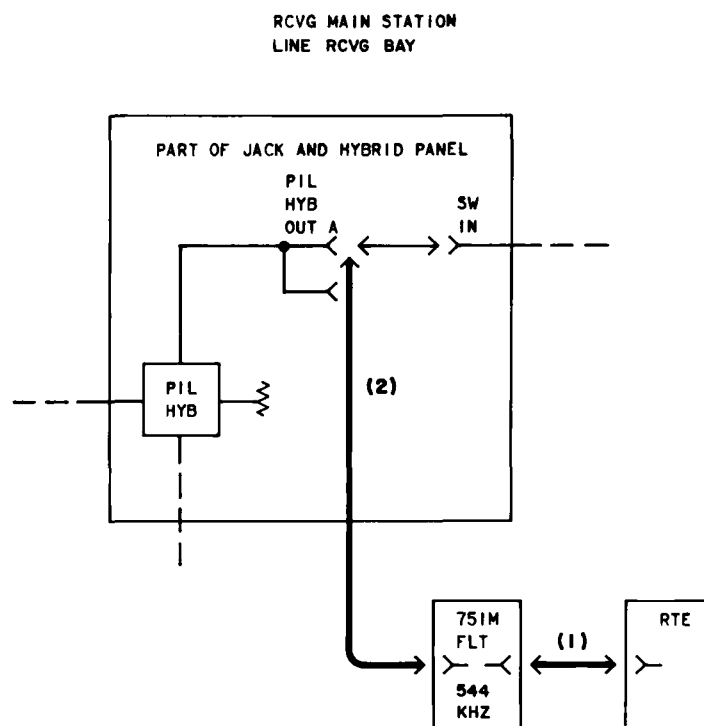

Fig. 3—Test Arrangement for Thermal Noise Measurement
Thermal noise in the line section is measured to detect excessive noise that may affect the intermodulation noise measurements in Chart 3. The test arrangement is shown in Fig. 3.
- 3 Connect the PIL HYB OUT A jack through a 751M filter to the RTE [patches (1) and (2), Fig. 3].